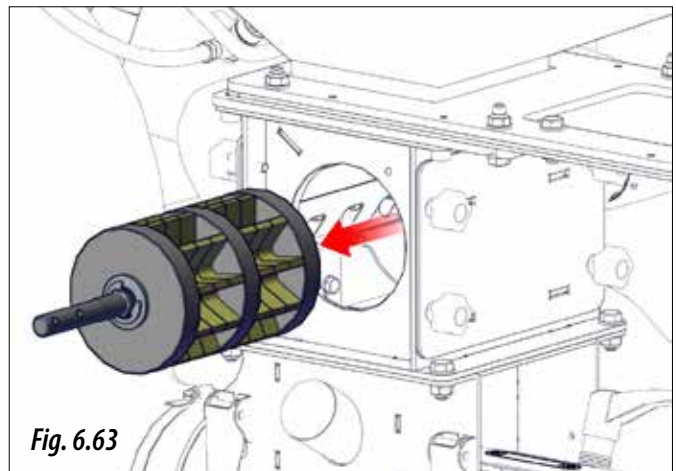

Fig. 6.63
- 6- Remove the roller to identify the type and quantity of sectors installed (Fig. 6.63. To remove the roller, see section 6.3.2 ROLLER DISPENSER).